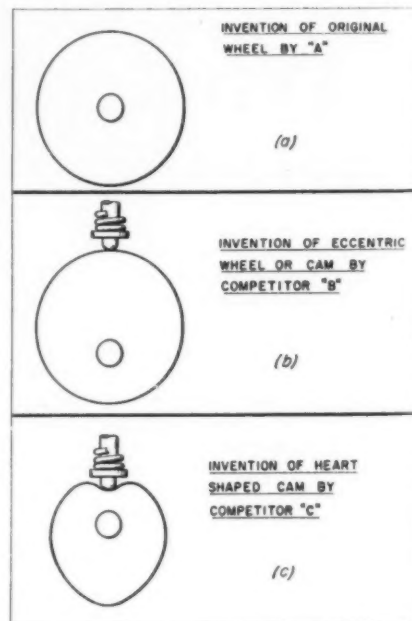

Fig. 1—Steps employed to "super-invent" from prior patents
**Designing Around Patents:** Two practical applications of the idea generating tool are shown in Fig. 1. In the invention of the original wheel, Fig. 1a, "A's" claim covers and defines the structure and includes the words "a circular body having a central axis." Competitor B, weighing the words of limitation, "superinvents" a wheel, Fig. 1b, with an eccentric axis, which is non-infringing. It is this procedure of honoring the original claim and designing around it which leads to the making of many worthwhile improvement inventions. Competitor C finds that he cannot manufacture and sell concentric or eccentric wheels. Therefore, he produces a heart-shaped cam, Fig. 1c, which is free of infringement.